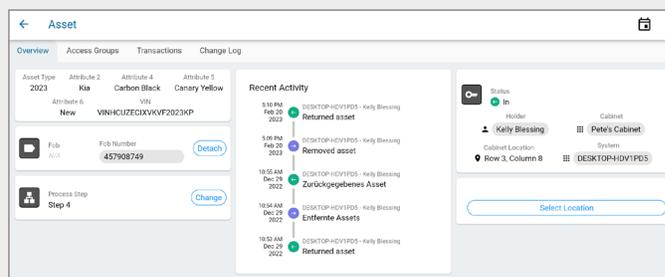

Fig. 153 – Asset details screen
1. Select the **asset card** to open the Asset details screen and view details about the asset, as shown in Fig. 153.